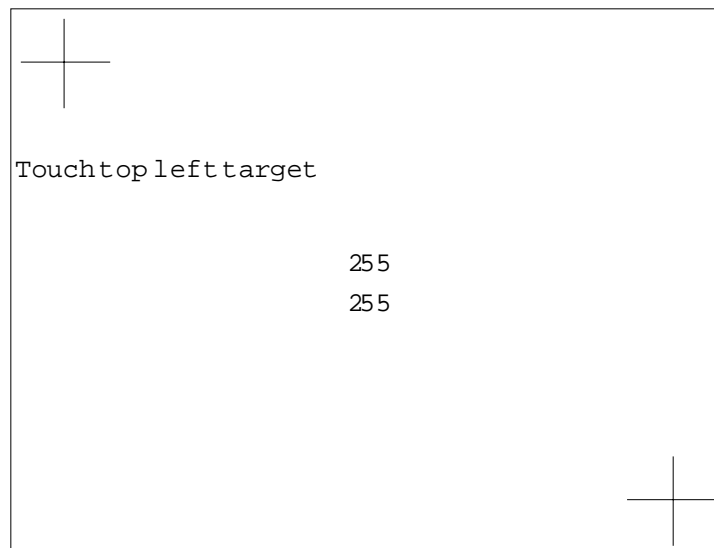

Figure 4.1 Calibration display
1. At switch on, continuously hold a finger somewhere on the display screen until the calibration display appears (approximately 30 secs) as depicted in figure 4.1.